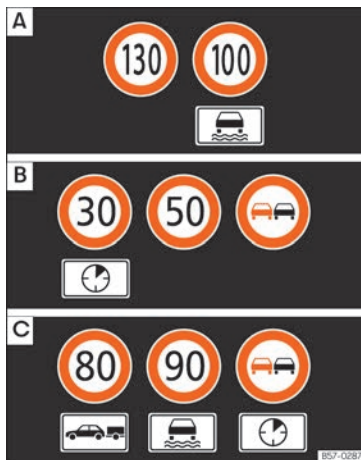

**Fig. 77** On the instrument panel display: examples of speed limits or overtaking prohibitions with their respective additional signs.
displayed, » Fig. 77 [B] with their additional signs.
- **First:** The sign that is currently valid for the driver is shown in the left side of the screen. For example, a maximum speed limit of **130 km/h (100 mph)** » Fig. 77 [A].
- **Third:** A sign valid only with restrictions, e.g. No overtaking at certain times, will be displayed in third place » Fig. 77 [C].